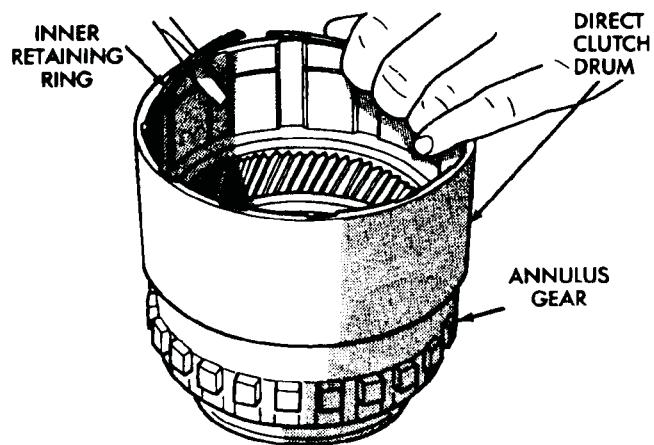

Fig. 30 Removing Clutch Drum Inner Retaining Ring
- (20) Remove direct clutch drum rear retaining ring (Fig. 30).